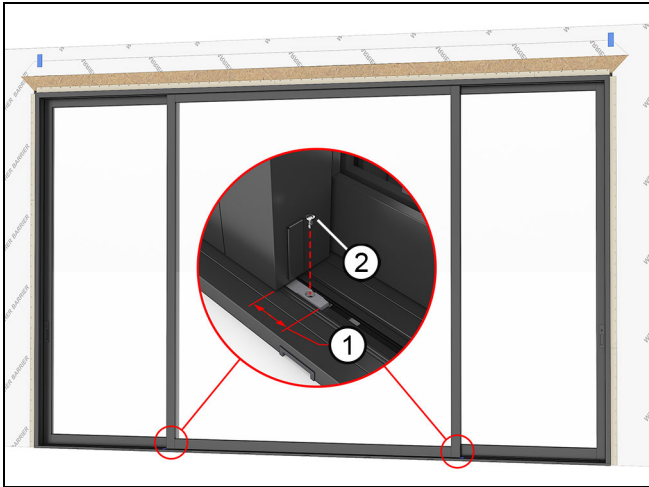

Figure 154 XOX
7. On both sides of the (K) panel, snap the lower stationary brackets onto sill, then slide underneath the stationary panel until fully seated. Each bracket should stick out approximately 2 1/4" (57) from the panel when fully seated. Fasten the brackets with #8 x 1/2" self drilling screws. See Figure 154.